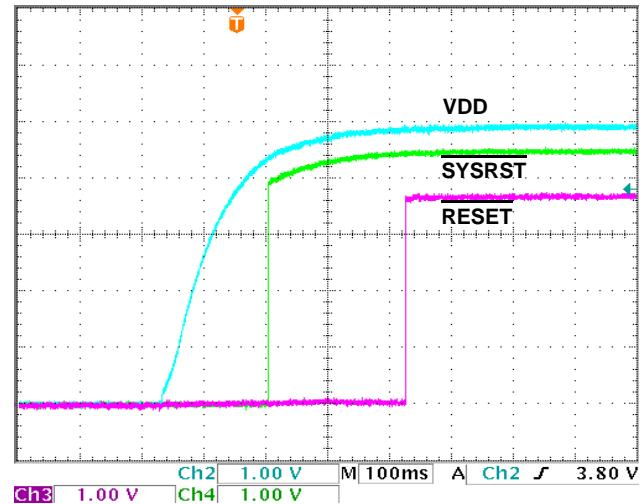

FIGURE 17. SYSRST AND RESET vs VDD (EN = VDD, 4 UVLO Vth > UVLO Vth)
**RESET** and **SYSRST** functionality and relationships are shown in Figures 17 through 21.
Figure 17 illustrates that with a rising **VDD**, **EN** tied to **VDD**, and all UVLO configured to be satisfied, both the **RESET** and **SYSRST** are held low before **VDD** = 1V. **SYSRST** is released to go high once the last UVLO is satisfied and **RESET** is released to go high at  $t_{RST,del}$  after the last **GATE** is high.